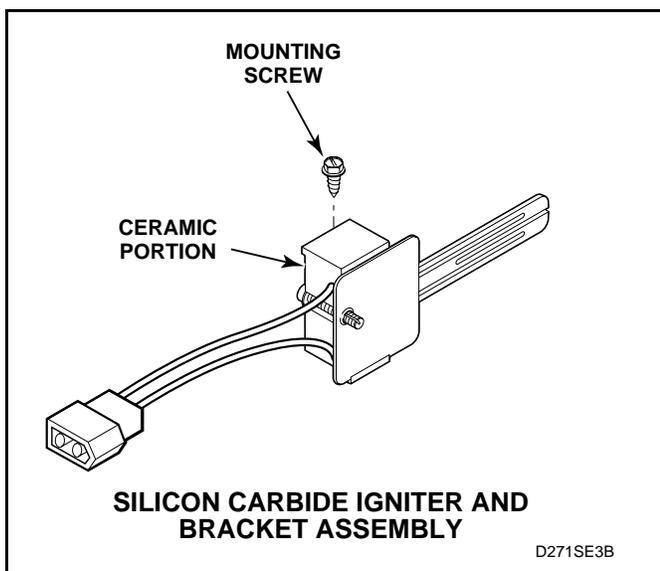

Figure 62
- e. **Silicon Carbide Igniter** – meter should read between 45 – 200 Ohms. See *Figure 62*.